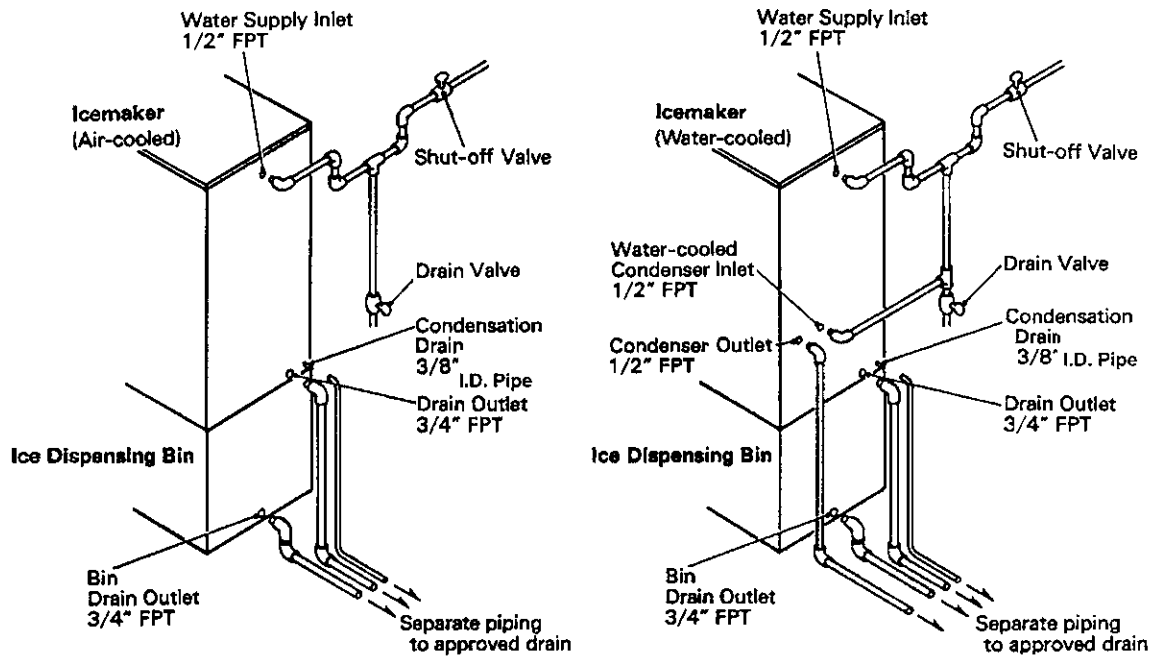

Fig. 4
5. DRAIN CONNECTIONS - See Fig. 4